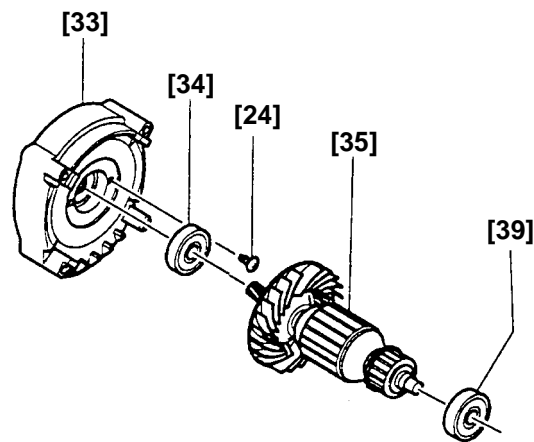

Fig. 7
(5) Removal of Inner Cover (B) [33] and Armature [35] (Fig. 7)
The Armature [35] may come off the Ball Bearing 6001VVCMP52L [34] when removing the Armature [35] from the Housing (Green) [40]. To prevent it, press-fit the Armature [35] to the Ball Bearing 6001VVCMP52L [34] before reinstalling the Armature [35] to the Housing (Green) [40] (Fig. 7).